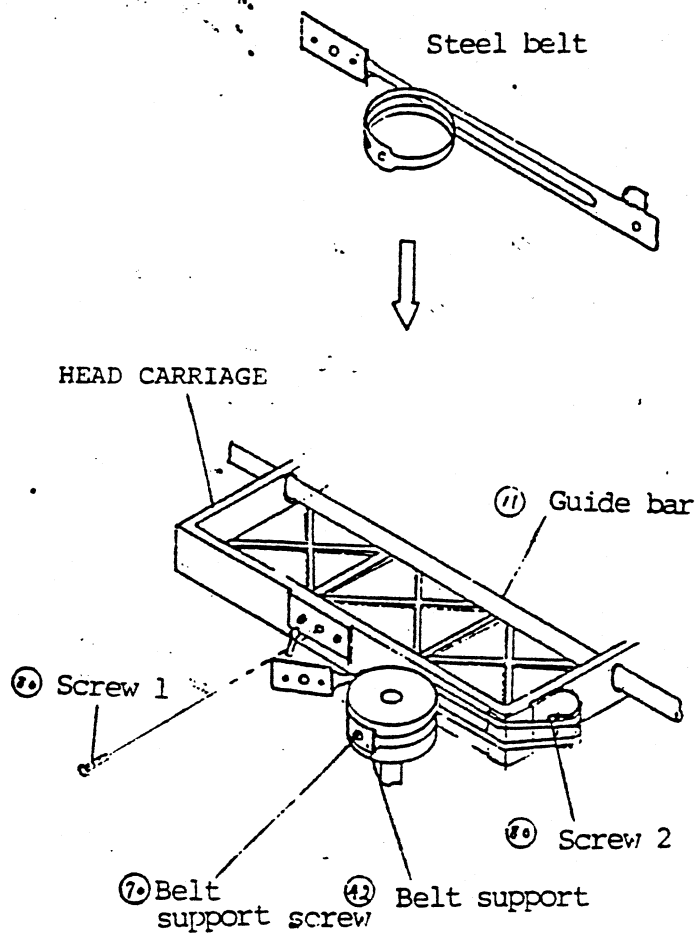

Fig. 6-3
3. Form a ring of the new steel belt as shown in Fig. 6-3. Mount the ring to the pulley with the belt support and the belt support screw temporarily.